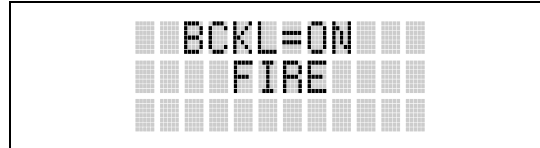

Figure 8-8: Backlight Menu Display
- Press **[M]**. The backlight menu item is activated. Line one shows the active menu item and its current parameter setting. Line two shows the currently selected system or group name (see Figure 8-8).